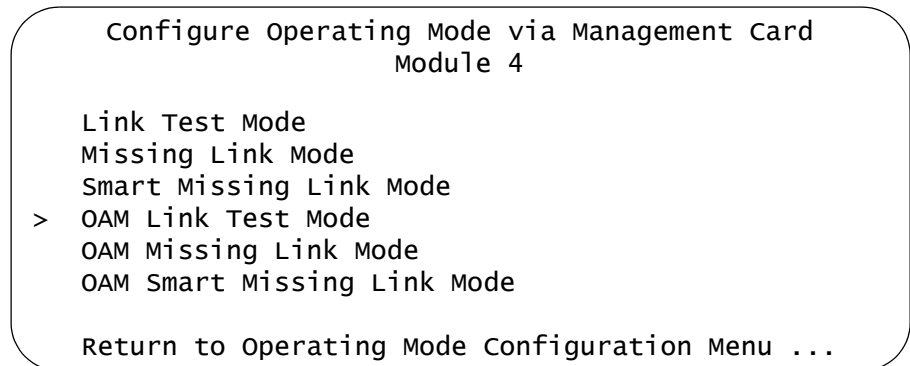

Figure 69. Configure Operating Mode via Management Card Menu
- If you prefer to set the card’s operating mode using the management software, select **Line Card Management Mode** to display the menu in Figure 69.